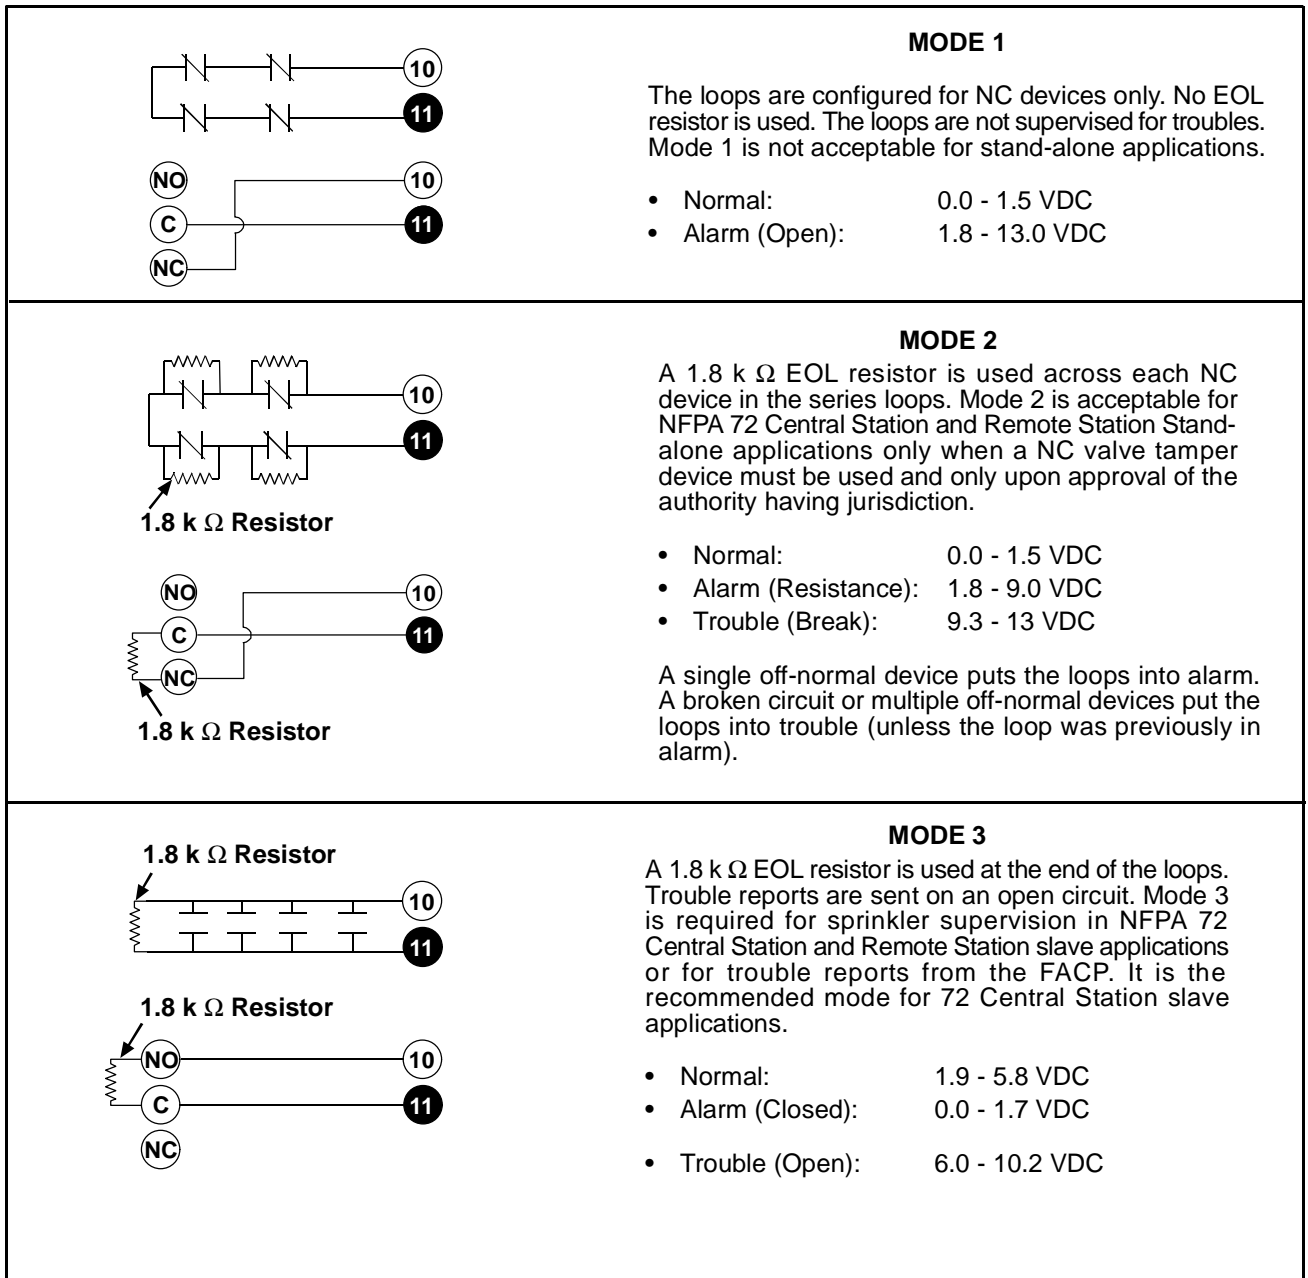

Figure 4: Modes 1, 2 and 3
You can wire the Class B (NFPA Style A) circuits in three different ways: Mode 1, 2, or 3. Program item *Class B Mode* determines the mode for both Zones 2 and 3. Wire both circuits for the same mode configuration. Connect dry contact devices to the Supervisory Circuits in series (normally-closed), or in parallel (normally-open). Install a 1.8 k Ω resistor at the end of the Class B (NFPA Style A) circuits if needed (see Figure 4).
- Connect supervision devices (maximum of 20 per circuit) such as valve tamper switches to Terminals 10 and 11 (Zone 2) or 11 and 12 (Zone 3) as shown in Figure 4.
- When connecting the D2071A to an FACP, use the Mode 3 configuration for slave communicator applications (see Figure 4).
To determine the electrical condition of the Class B (NFPA Style A) Supervisory Circuits, use a voltmeter to measure the voltage across the terminal connections (refer to Figure 4 for loop voltages). The loop must be connected, and the D2071A must be powered.